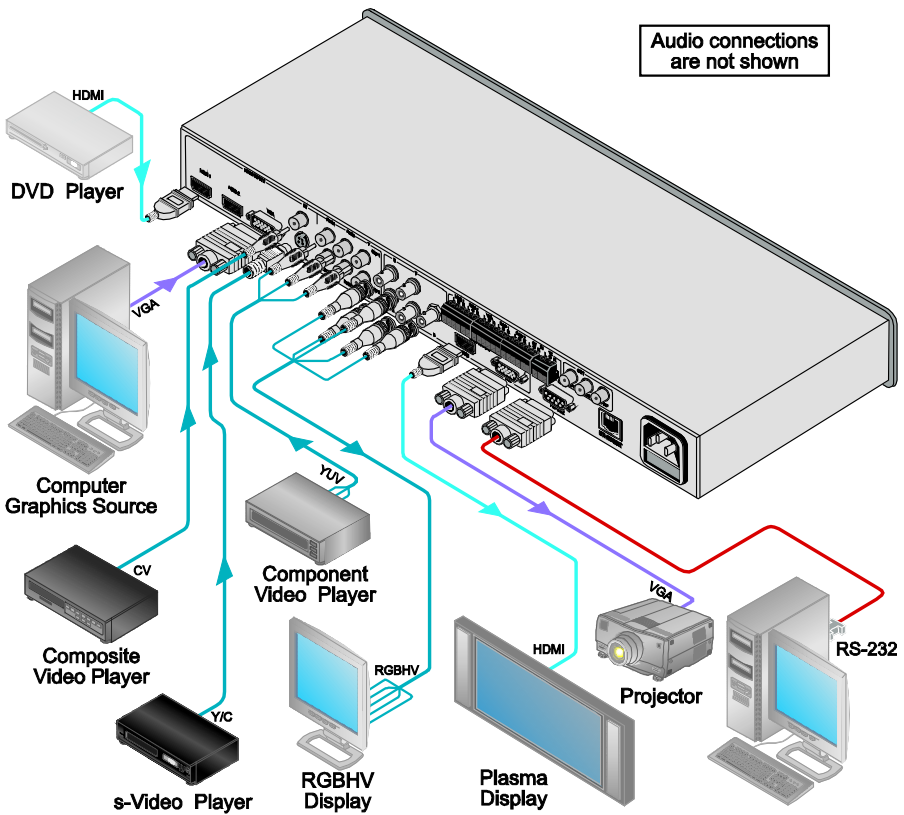

Figure 2: Connecting the VP-437xl Presentation Switcher / Scaler
To connect1 your **VP-437xl**, as illustrated in the example in Figure 2, do the following:
6. Connect the audio input signals to the AUDIO IN terminal block connectors, as required (not shown in Figure 2).
10. Connect the audio output signals to the OUT stereo analog audio acceptor and/or the digital audio acceptor, as required (not shown in Figure 2).
11. Connect the power cord3 (not shown in Figure 2).